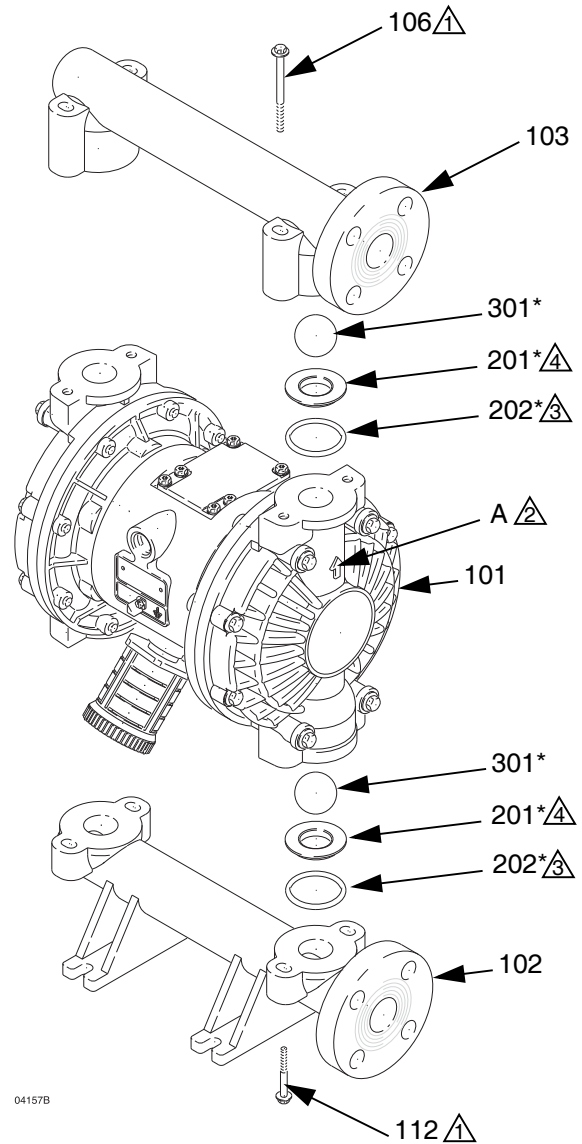

Fig. 11
3. Using a 10 mm socket wrench, remove the four bolts (106) holding the outlet manifold (103) to the fluid covers (101). See Fig. 11.
4. Remove the seats (201), balls (301), and o-rings (202) from the manifold.
**NOTE:** Some models use two o-rings (202), some models use four o-rings (202), and some models do not use o-rings.
5. Turn the pump over and remove the inlet manifold (102). Remove the seats (201), balls (301) and o-rings (202) from the fluid covers (101).
2. Reassemble in the reverse order, following all notes in Fig. 11. Be sure the ball checks **exactly** as shown. The arrows (A) on the fluid covers (101) **must** point toward the outlet manifold (103).